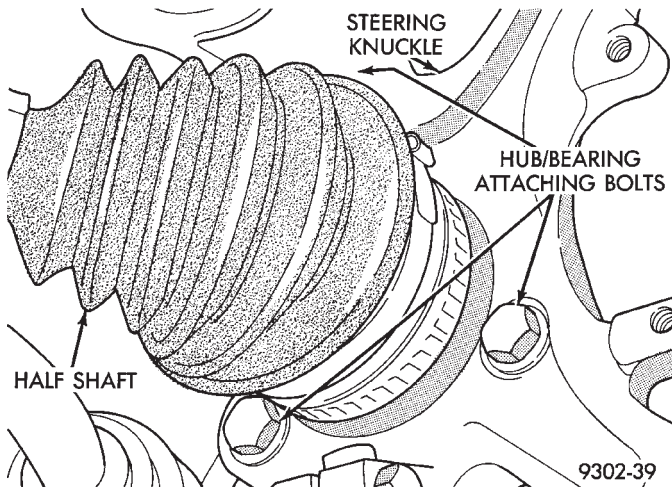

Fig. 15 Hub And Bearing Assembly Retaining Bolts
(5) Install the 3 steering knuckle to hub and bearing assembly attaching bolts (Fig. 15). Equally tighten all 3 mounting bolts until hub and bearing assembly is squarely seated against front of steering knuckle. Then torque all 3 hub and bearing assembly mounting bolts to 110 N•m (80 ft.lbs.)